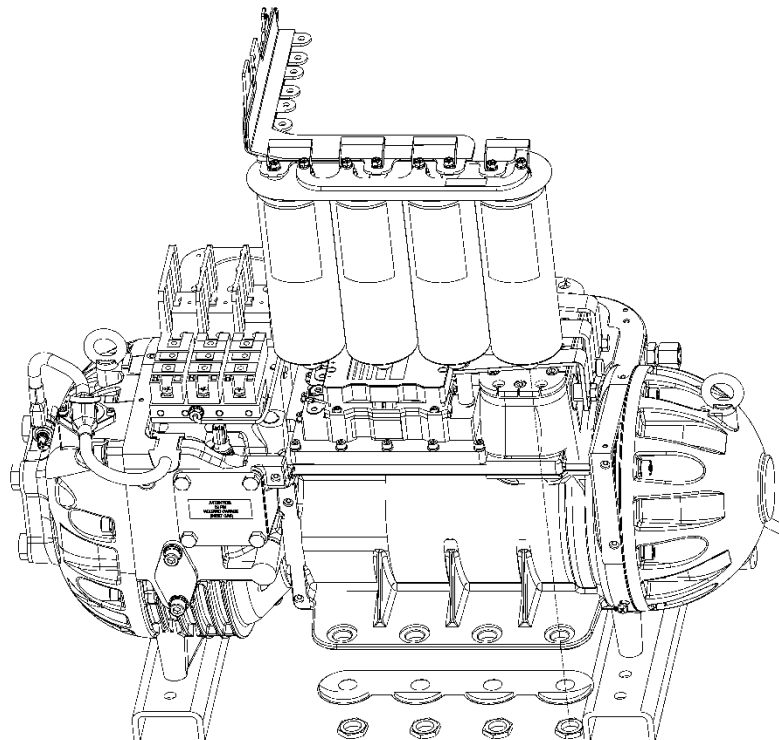

Figure 13 – Capacitor Assembly Removal
23. Carefully lift the DC Bus Bar and Capacitor Assembly out as an assembly. Refer to Figure 13 (Capacitor Assembly Removal).